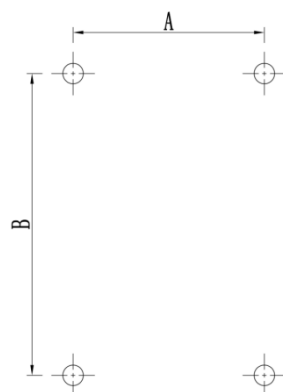

Figure 3-6 Mounting holes diagram (2.2kW-160kW)
1) The frequency converter must be fixed reliably. Please drill the mounting holes beforehand according to Table 3-4 and Figure 3-6, and use the specified fasteners as per Table 3-4.